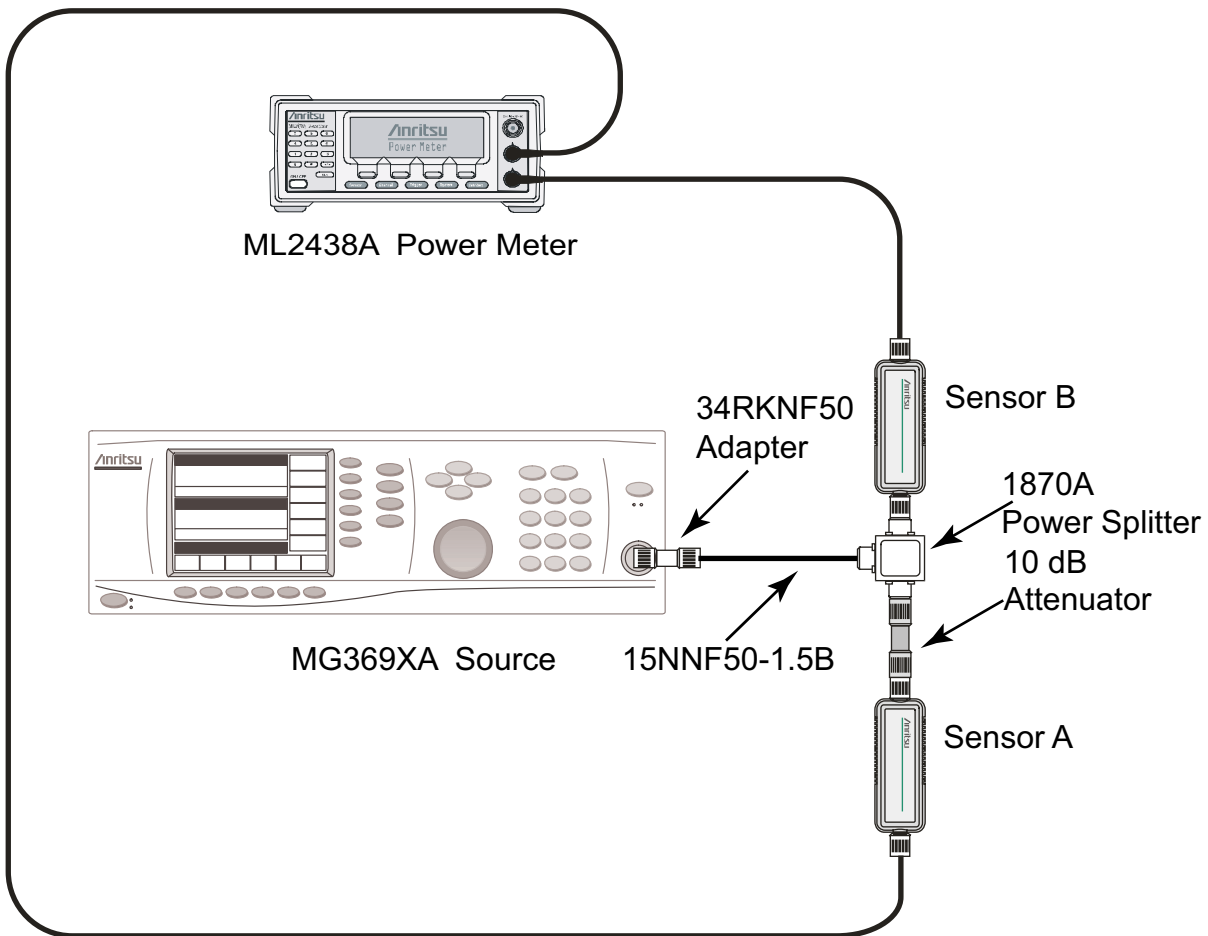

Figure 2-13. Power Meter Verification (Option 29) Characterization Setup
9. Connect the power splitter to the Synthesized Signal Generator output and connect Sensor B to one of the power splitter output connections. Install the 10 dB Fixed Attenuator to the other power splitter output connection, and then connect Sensor A to the end of the Attenuator. Refer to Figure 2-13.